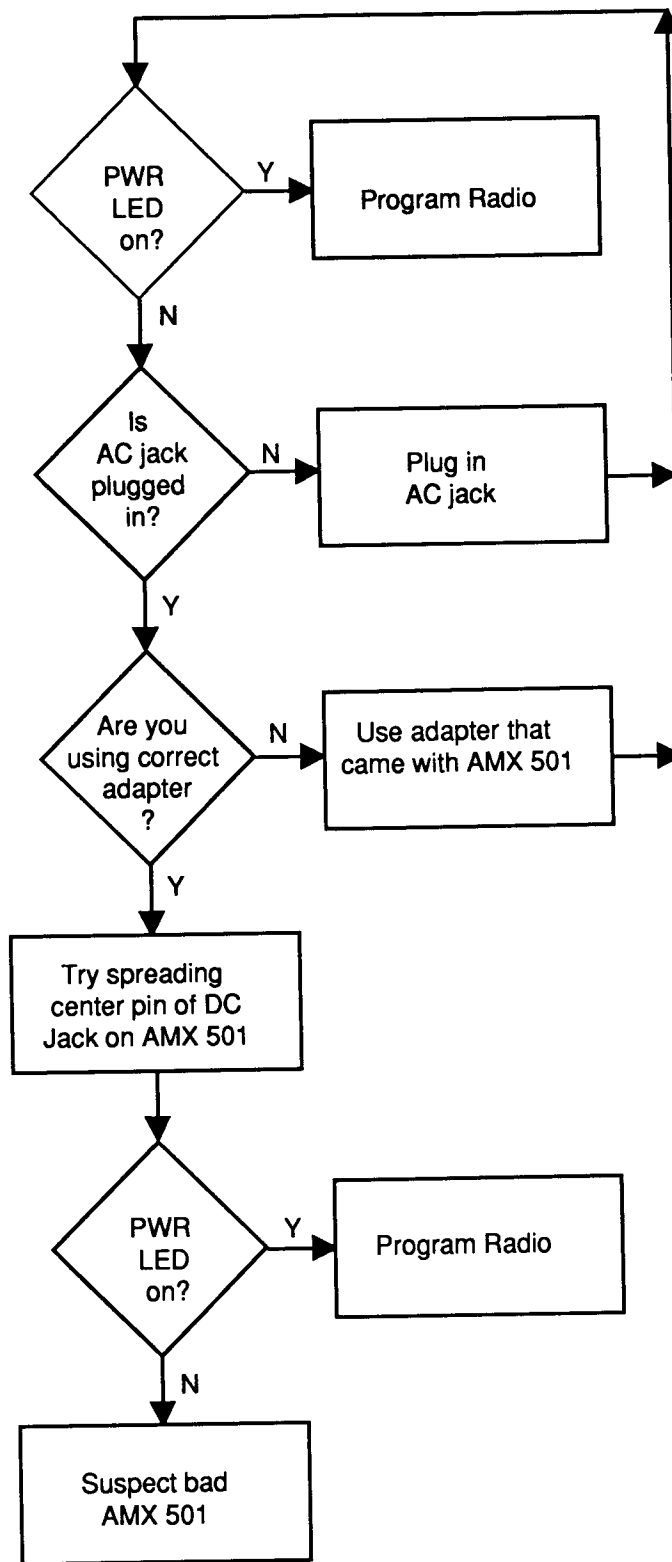

Figure 2. Portable Radio Power Flowchart
- Use figure 2 when you try to program a portable radio and the power LED on the AMX 501 does not light.